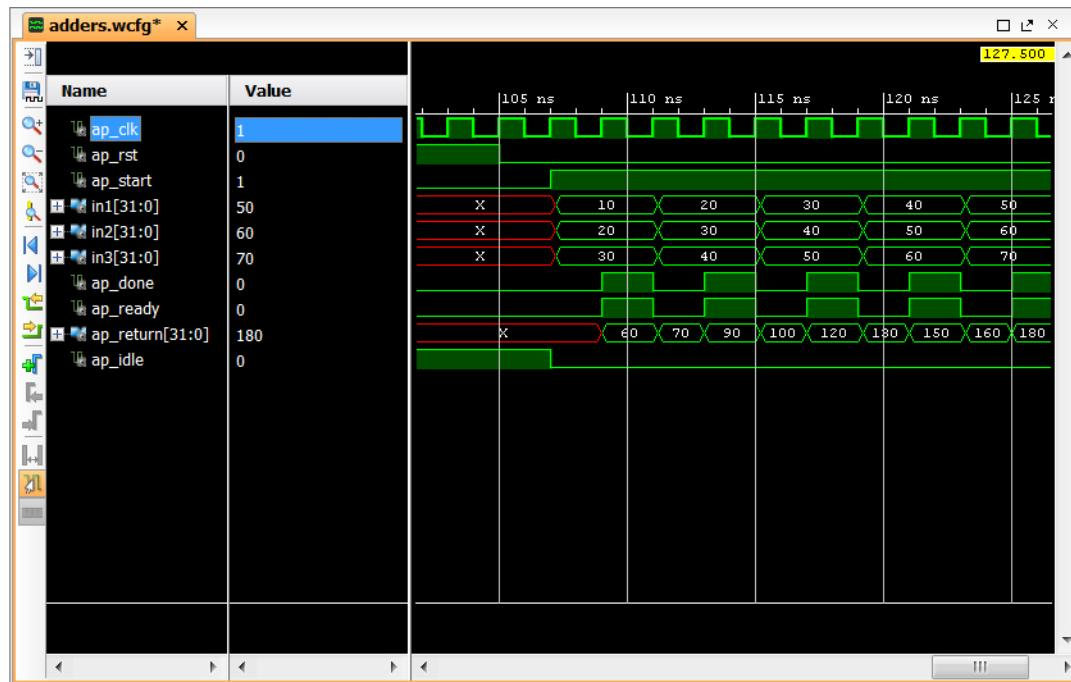

Figure 4-6: RTL Waveforms for Block Protocol Signals
- Input ports `In1`, `In2`, and `In3` are 32-bit inputs and have the I/O protocol `ap_none` (as specified by the directives in Figure 4-6).
The block-level I/O protocol allows the RTL design to be controlled by additional ports independently of the data I/O ports. This I/O protocol is associated with the function itself, not with any of the data ports. The default block-level I/O protocol is called `ap_ctrl_hs`. Figure 4-6 shows this protocol is associated with the function return value (this is true even if the function has no return value specified in the code).
You can observe the behavior of these signals by viewing the trace file produced by RTL cosimulation. This is discussed in Chapter 8, RTL Verification tutorial, but Figure 4-6 shows the waveforms for the current synthesis results.